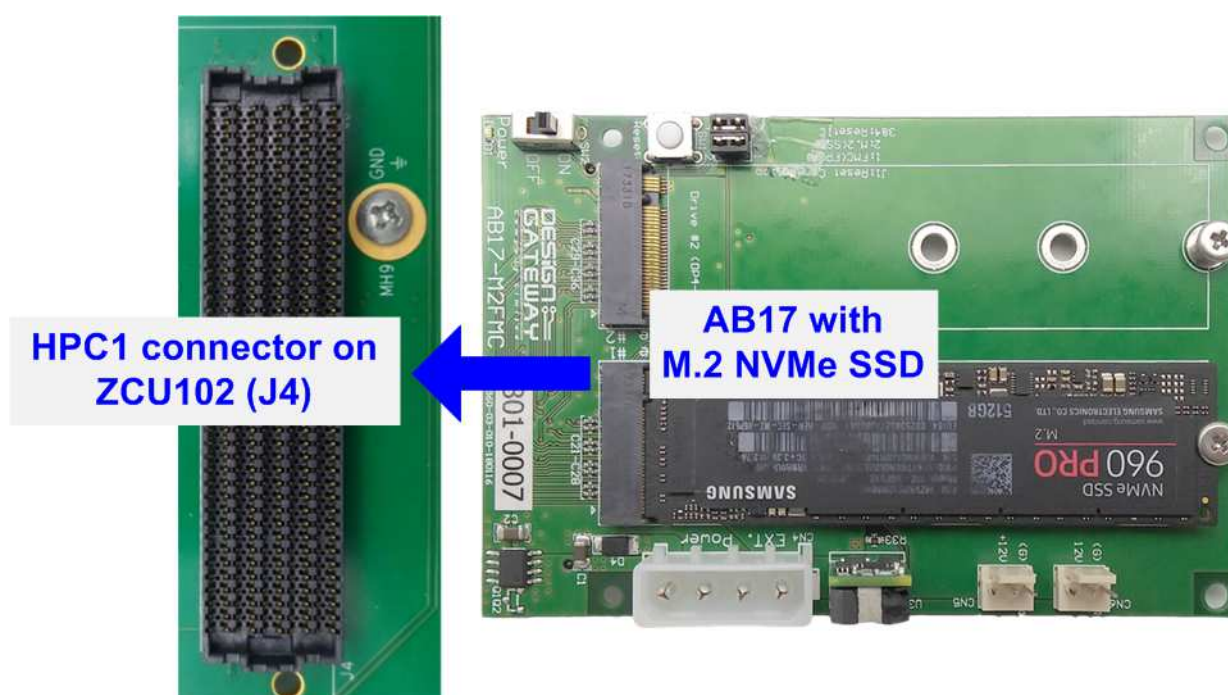

Figure 2-2 Connect AB17 to FPGA board
- 3) Connect AB17-M2FMC to HPC1 connector (J4) for ZCU102 as shown in Figure 2-2.